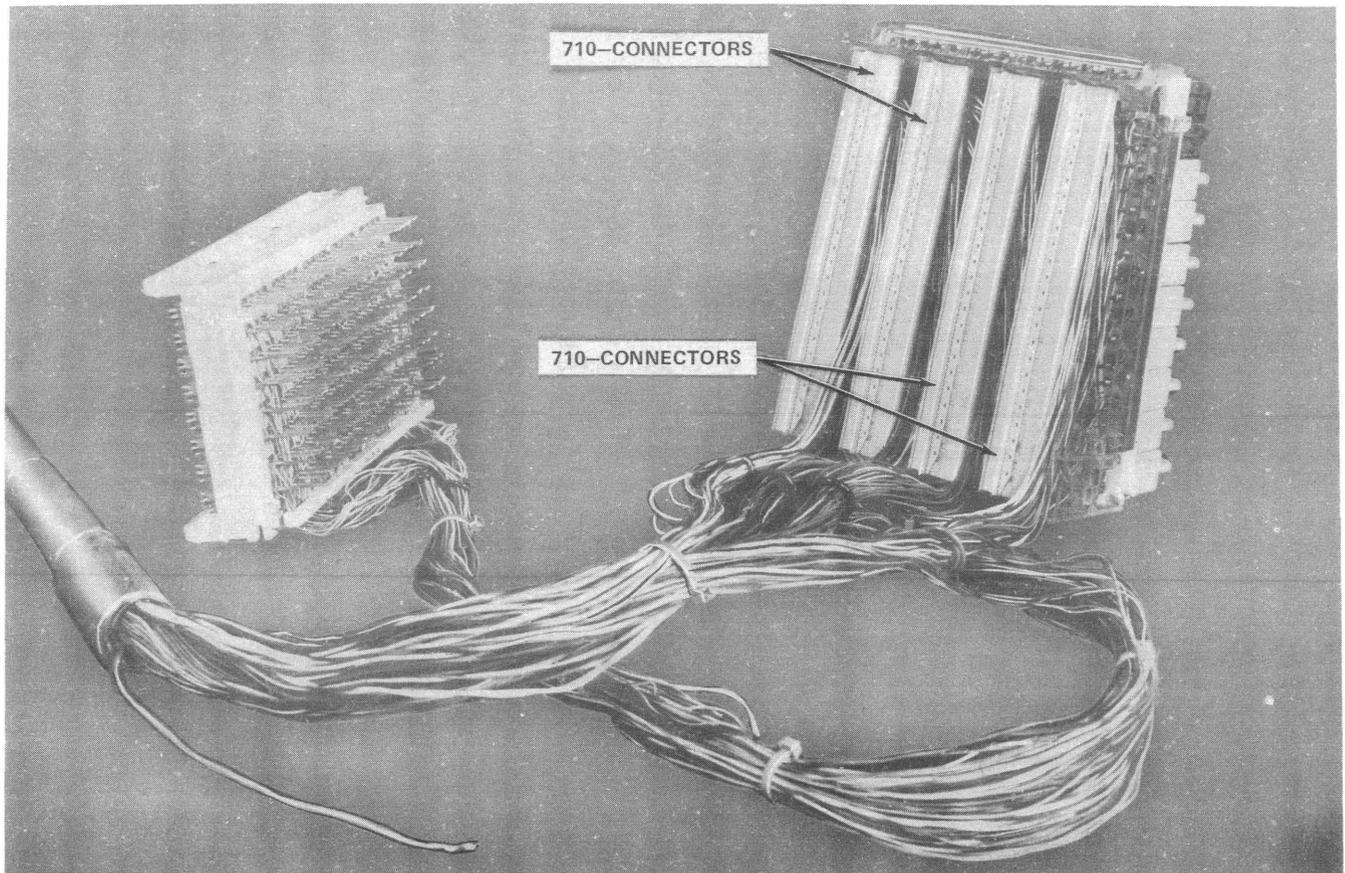
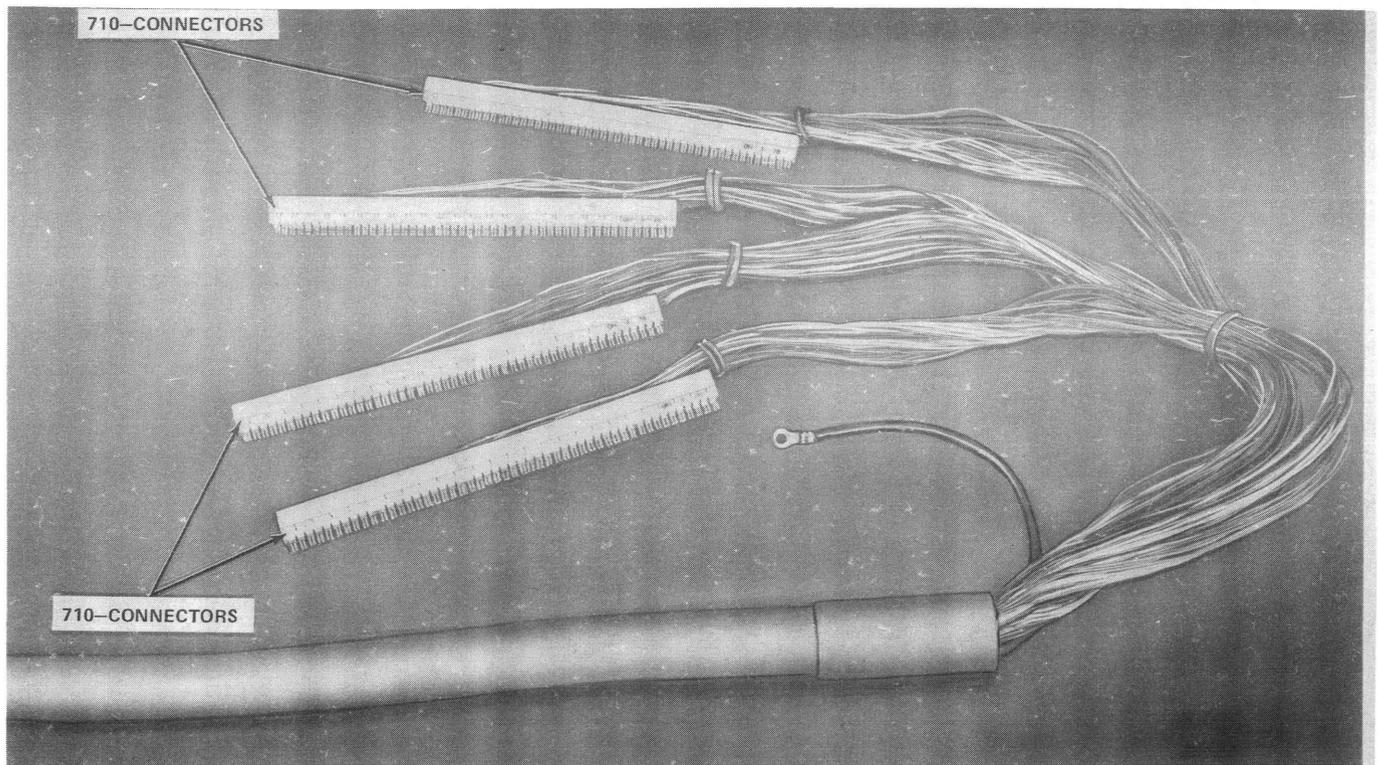

Fig. 5—710-SD1-25 Connector
Fig. 6—11CA and 11DA Stub Cables
2.02 The 307A1-100 and 307B1-100 connector blocks have additional backplane wiring which interconnects the protector panel to four 710 fire-retardant connectors (Fig. 5). The four 710-connectors are rigidly held in a plastic bracket which is attached to the rear of the protector panel. These connectors provide for rapid connection to connectorized 11C or 11D cable stubs equipped with mating 710-bridge modules (Fig. 6).
The codes, capacity, application, and lengths are given in Table B. The 11CA and 11DA stub cables are made up with 22- or 24-gauge (respectively) tinned copper and insulated with color-coded polyvinyl chloride insulation. One end of the stub is terminated with four 710 bridge modules (Fig. 6) in 25-pair groups. The 11CB stub cable contains 50 pairs, 22 gauge, with two 710 bridge modules (25 pairs each) for connection to the 307C1-100 connector. It is used